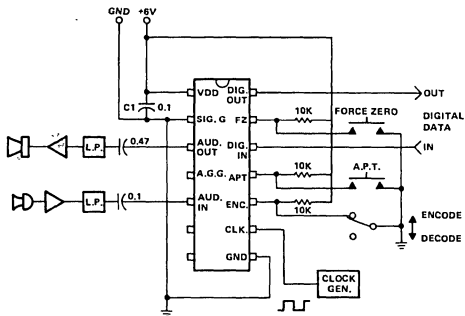

Figure 6 - CVSD Hookup for Evaluation
Figure 6 illustrates a simple evaluation breadboard circuit for the HC-55516/55532. A single device is sufficient to evaluate sound quality, etc. since, when encoding, the feedback signal at pin 3 is identical to the decoded signal from a receiver. The following are some pointers for using the devices:
- 1) Power supply decoupling is essential with the capacitor (C1 in Figure 6) located close to the I.C.